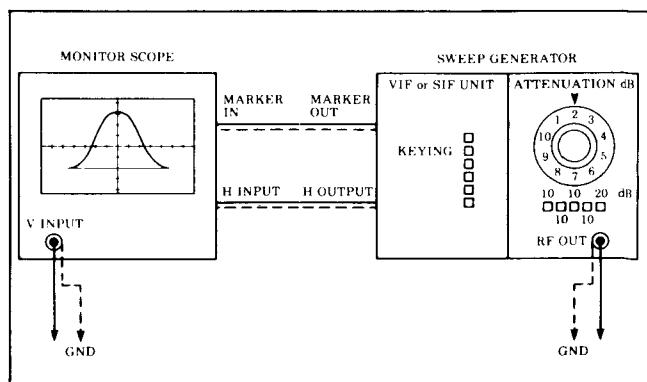

Fig. 28 Connection of Measuring Equipment
- Set the BAND SW of the deck to the VHF high position (VH) (NV-G10, G7EG/EO). And turn the tuning volume so that the voltage at BT terminal of the tuner becomes 15 ± 1 V.
- Connect the VIF SWEEP to TP703 and connect the MONITOR SCOPE to TP707 as shown in Fig. 28.